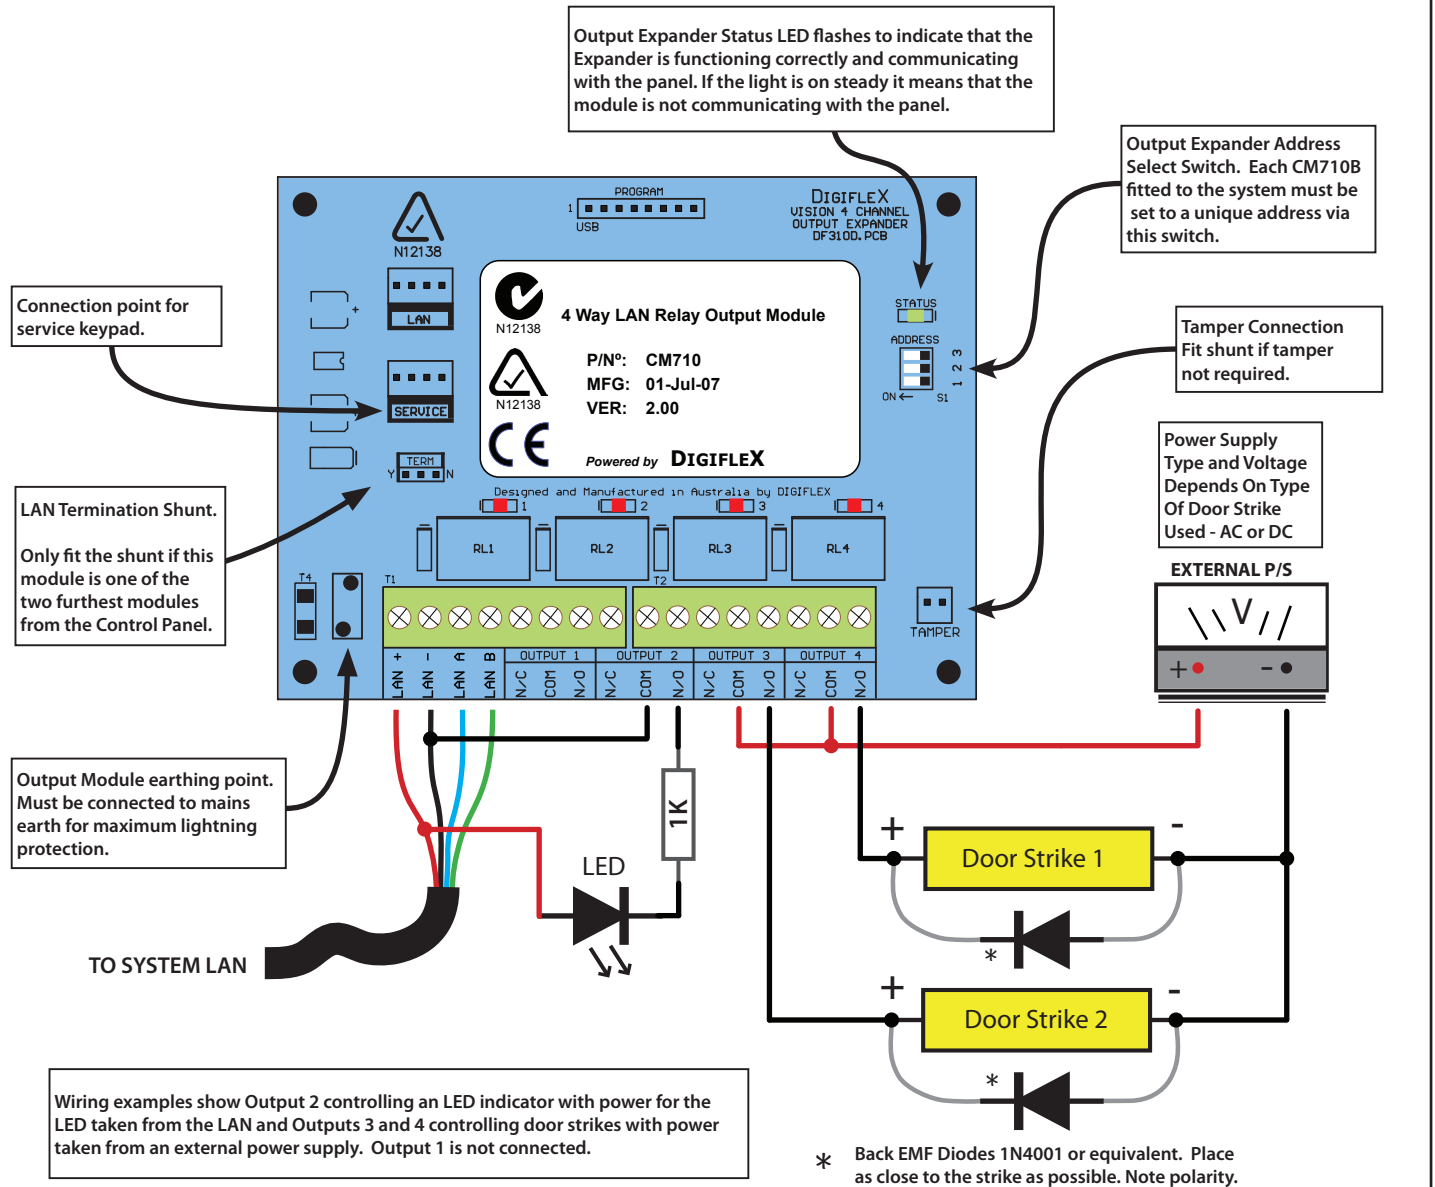

Figure 1: CM710B Connection Diagram
Each output includes Normally Open (NO), Normally Closed (NC) and Common (COM) terminals. Figure 1: includes examples showing control of an LED indicator and two door strikes in an access control application.